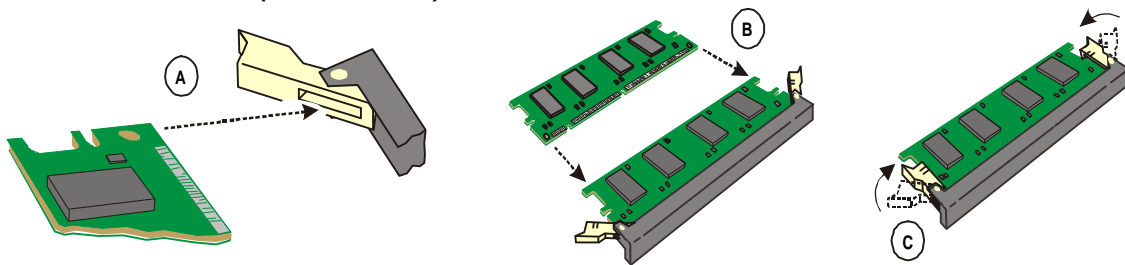

Figure 7.
2. Place the corners of the memory module into the slots located on the latches as illustrated in figure 7 (A).